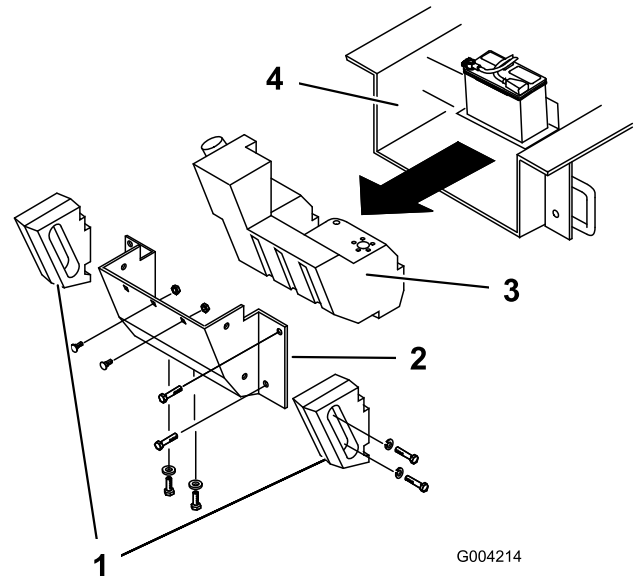

Figure 54
Over time, the chassis under the engine collects dirt and debris that must be removed. Using a flashlight, open the hood and inspect the area under the engine on a regular basis. When the debris is 1 to 2 inches deep, complete the following procedure (refer to Figure 54 throughout this procedure):
4. Remove the bolts, washers, and lock washers securing the two side weights, removing the weights (Figure 54).
7. Remove the six nuts and bolts securing the rear panel, removing the panel (Figure 54).
10. Slide the fuel tank to the rear (Figure 54).
21. Replace the rear panel and secure it with the six bolts and nuts removed previously (Figure 54).
23. Install the side weights with the bolts, washers, and lock washers removed previously (Figure 54).
16. Slide the fuel tank part way into the chassis (Figure 54).